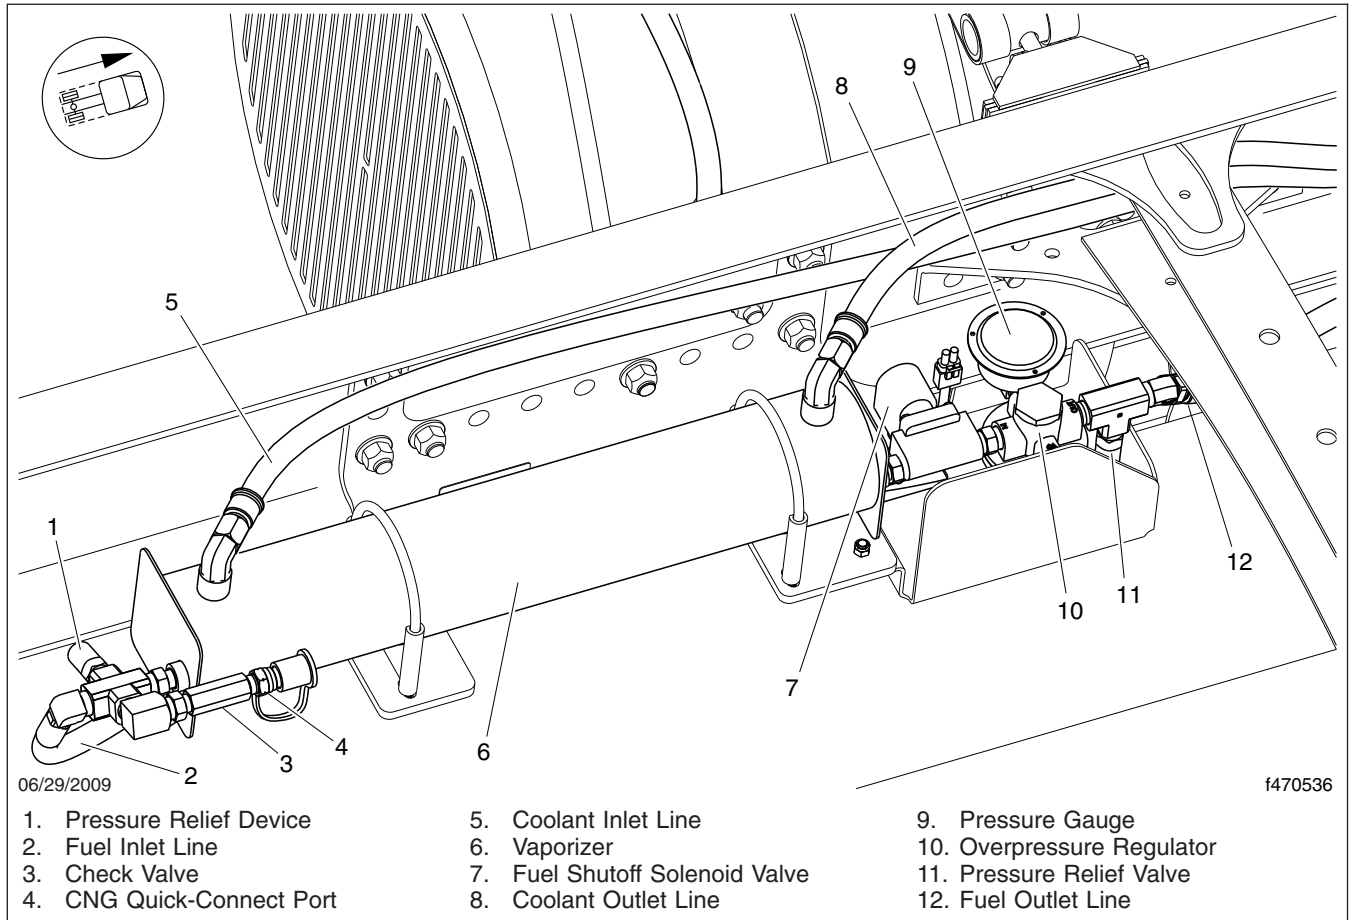

Fig. 21.12, LNG Vaporizer Assembly
8. Inspect the LNG vaporizer for signs of damage or leaks. See Fig. 21.12. Inspect the vaporizer mounting brackets for signs of looseness.